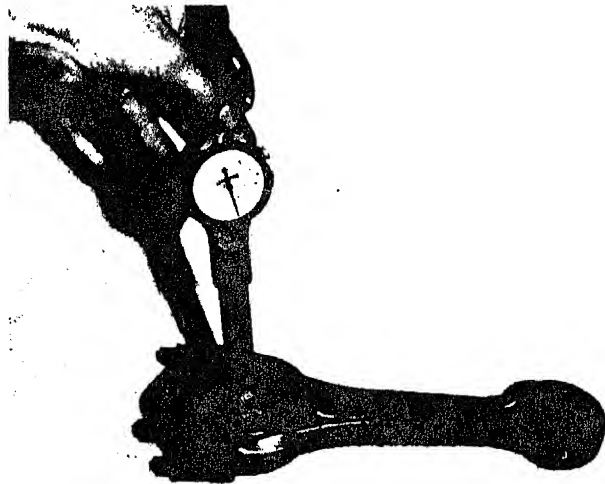
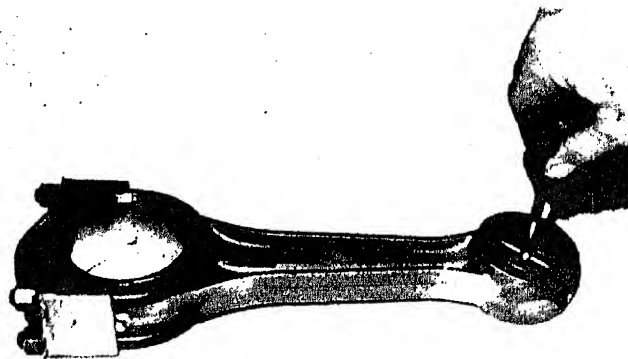
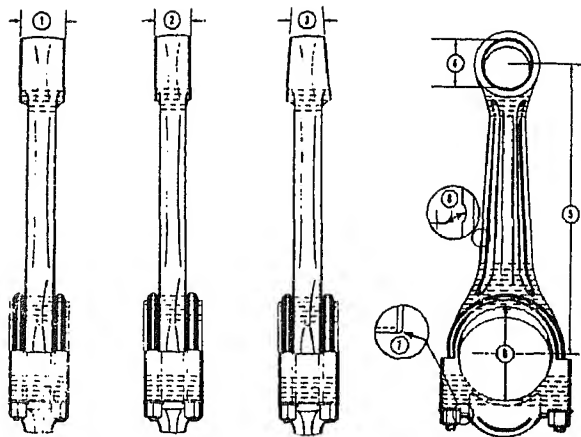

Fig. 1-8-1. Checking connecting rod crank journal bore
Fig. 1-8-2. Checking connecting rod piston pin bushing
Fig. 1-8-7 Connecting rod specifications
- b. Check rods for cracks with 3000 to 3400 ampere-turns with AC equipment or 2600 to 2800 ampere-turns with DC or rectified AC equipment in a coil. Pay particular attention to shaded critical areas shown in Fig. 1-8-7.
3. Check crankpin bore with a dial bore gauge or inside micrometers. Correct size is important to provide correct bearing crush. See Table 1-8-2, Fig. 1-8-1 and (6, Fig. 1-8-7).
4. Check piston pin bushing diameter with plug gauge or with inside micrometers. See Table 1-8-2, Fig. 1-8-2 and (4, Fig. 1-8-7).
1. Select a new rod that has been checked for correct absolute center to center length. C rods are 9.500 in. [241.3000 mm] between centers. (Production rods may vary from 9.498 in. to 9.500 in. [241.2492 mm to 241.3000 mm] (5, Fig. 1-8-7).
(7, Fig. 1-8-7). Maximum $\frac{1}{16}$ in. [1.5875 mm] metal may be milled off to restore radius.
2. Remove nicks and dents which are less than $\frac{1}{16}$ in. [1.5875 mm] deep by grinding or filing with a half-round file. Radius must be $\frac{1}{2}$ in. [12.7000 mm] or more. Blend radii at ends of cut. Scrap rod if dents are deeper than $\frac{1}{16}$ in. [1.5875 mm] (8, Fig. 1-8-7).
Note: Three types of connecting rods are used in the series engines "straight-wide (1, Fig. 1-8-7) 1.570 in. [39.3700/39.8780 mm] and narrow (2) 1.150/1.160 [29.2100/29.4640 mm] and tapered (3)". Do not mix types rods in any engine.
- d. Bore new bushing to 1.500/1.5005 in. [38.1000/38.1127 mm] (4, Fig. 1-8-7).